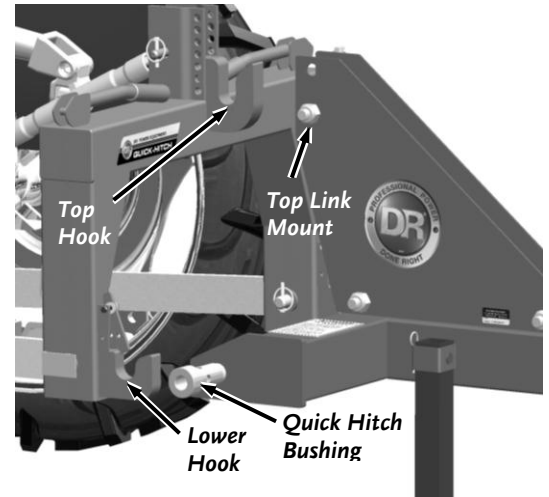

Figure 6
1. Remove the Bolts and Nuts that hold the Upper Hook to the Frame using two 19mm wrenches and remove the Upper Hook (**Figure 6**).